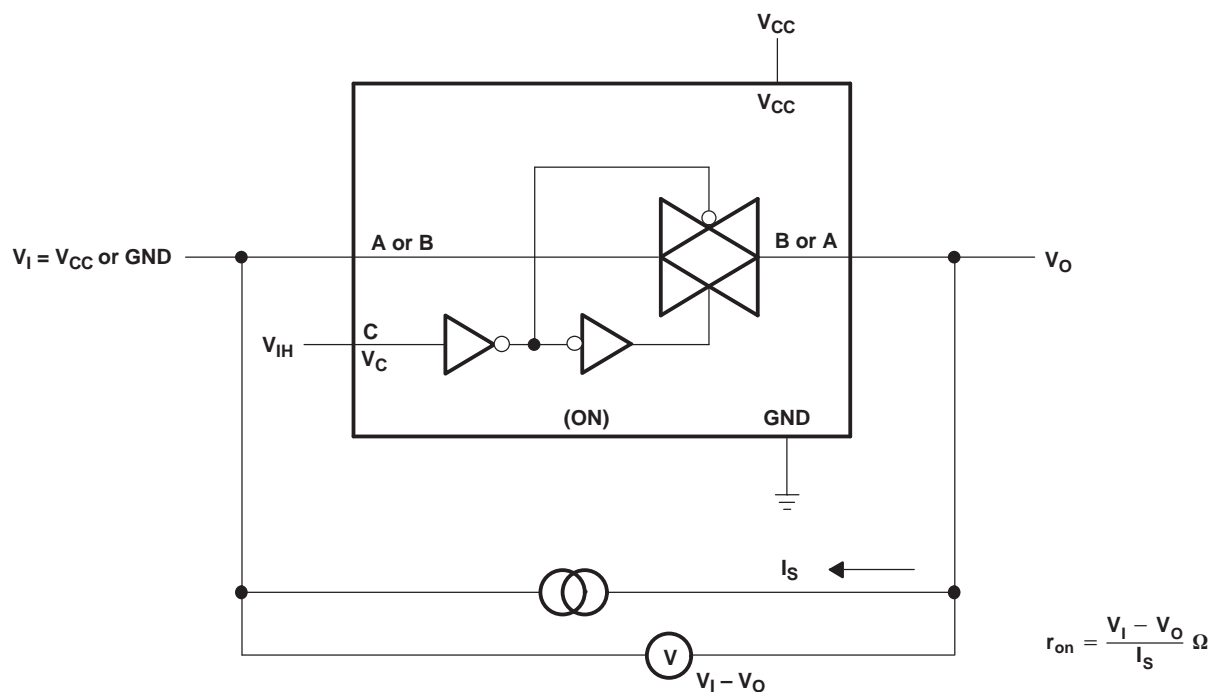

Figure 1. On-State Resistance Test Circuit
(1) t_a = 25°C
(2) The data was taken at C_L = 15 pF, R_L = 2 kΩ (see Figure 1).